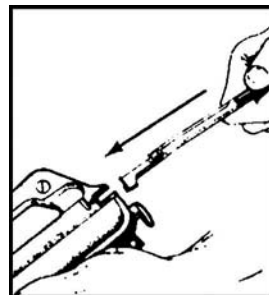

Figure 32. Placing the charging handle in the receiver.
- i. Place the charging handle by engaging it, then pushing the charging handle part of the way in (Figure 32).